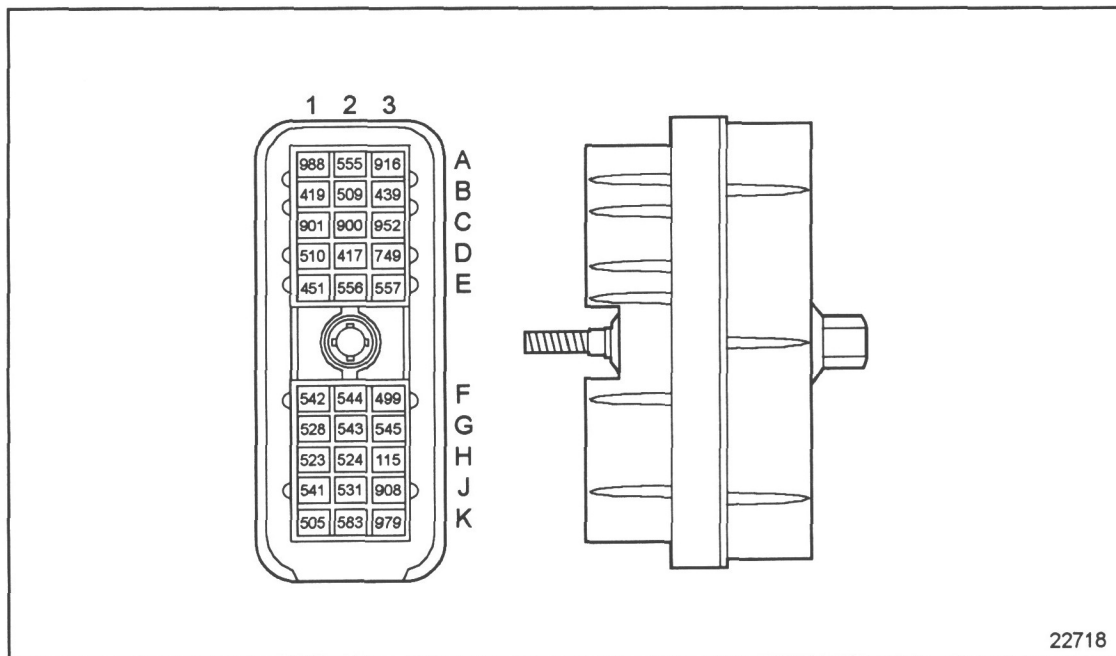

Figure 54-3 ECM Vehicle Interface Harness Connector
3. Measure resistance between sockets E2 and E3 and a good ground. See Figure 54-3.